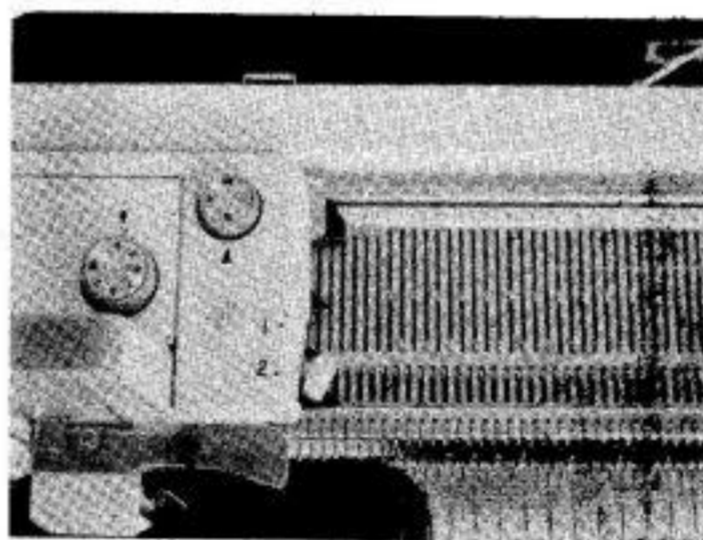

Fig. 47
**2nd row** With carriage on left, bring forward the leading (right hand) Return Cam Lever to position 2 and knit this row. (Fig. 47) Push back the right hand Return Cam Lever into position 1.